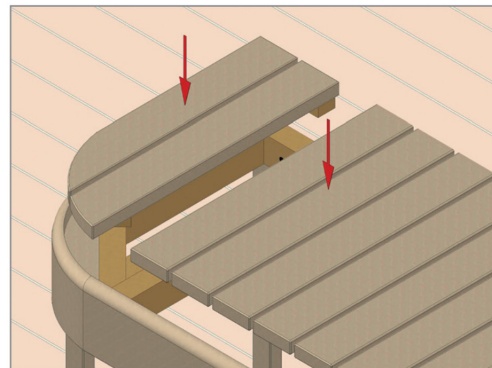

Figure 4
4. As a last step, lift the bench grids into place. (Figure 4)